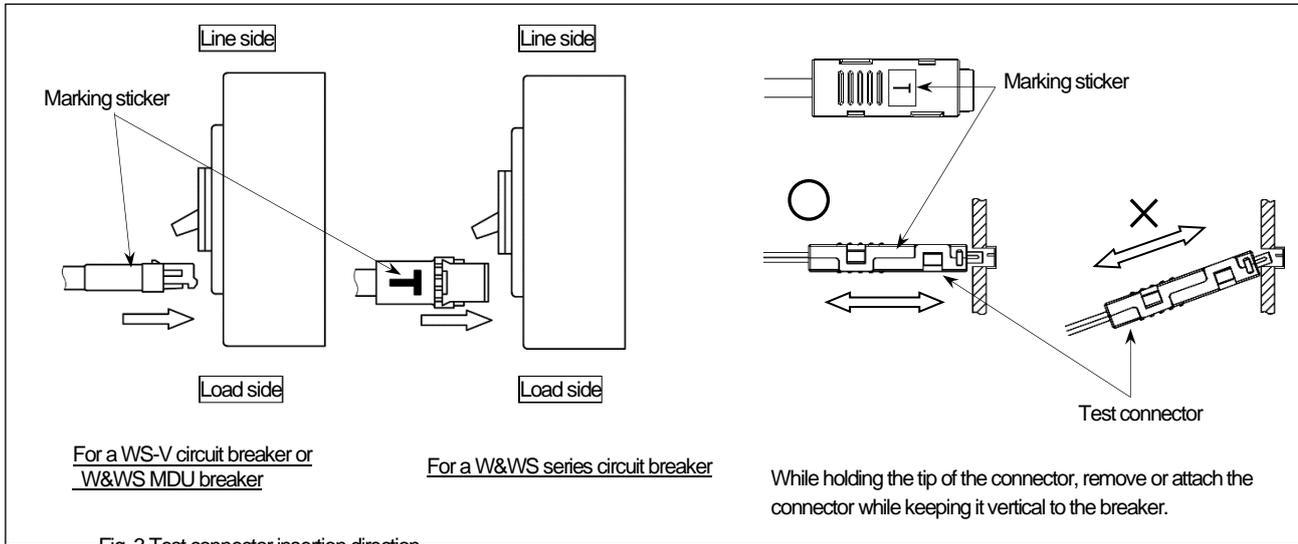

Fig. 3 Test connector insertion direction
Insert the test connector with the marking sticker facing the line side or right side of the circuit breaker. (Fig. 3)
- Do not slant the connector when attaching or removing the test connector to/from a breaker. (Fig. 3) Doing so may break the test connector. Do not hold the cable but the tip of the test connector when attaching or removing the test connector.